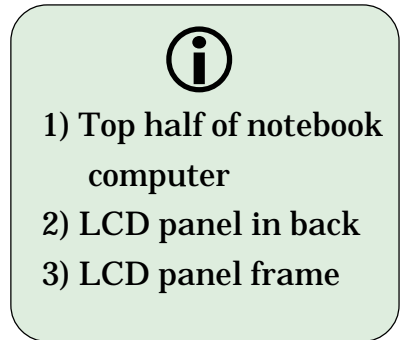

figure 3-25
3. Run your finger around the middle of the frame and separate the frame from the back (figure 3-25).